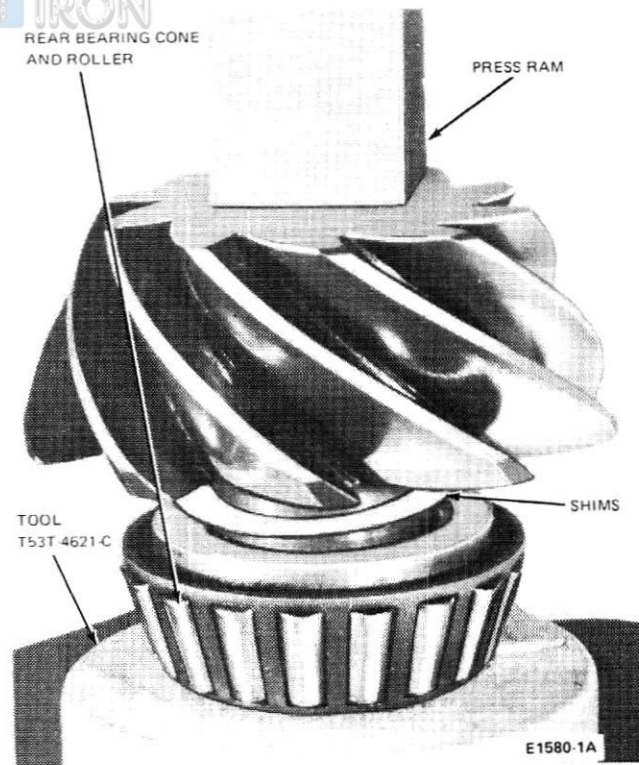

FIG. 29 Drive Pinion Bearing Installation
1. Place the shim(s) and pinion rear bearing cone on the pinion shaft. Press the bearing and shim(s) firmly against the pinion shaft shoulder (Fig. 29).